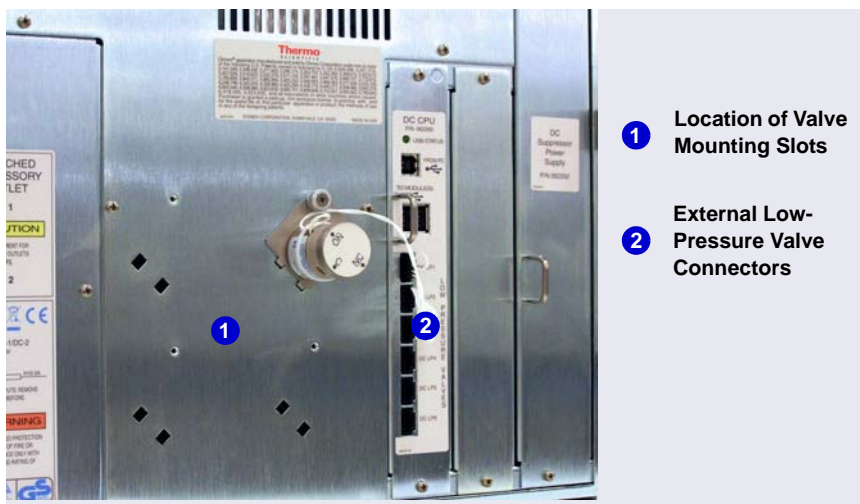

Figure B-17. DC Rear Panel: External Low-Pressure Valve Connections
1. Insert the two tabs on the valve mounting plate into available slots on the DC rear panel (see Figure B-17) or EO regulator stand bracket.
3. Plug the valve into one of the low-pressure valve connectors on the DC rear panel (see Figure B-17). Plumb the valve as required.
3. Route the valve cable to the back of the DC, through the slot on the side of the module. Connect the cable to one of the low-pressure valve connectors on the DC rear panel (see Figure B-17).